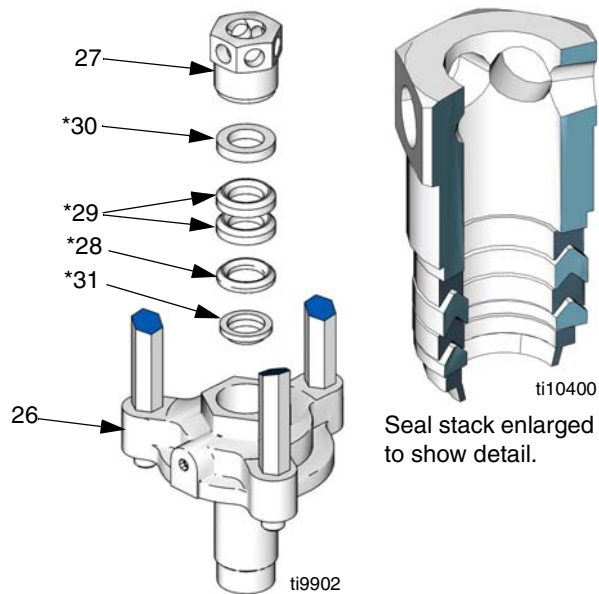

FIG. 25
- Remove hex nut (27) from mounting flange (26). Remove female gland (30*), 2 PTFE packings (29*), male gland (28*) and wiper (31*). Inspect all parts for damage. See FIG. 25.